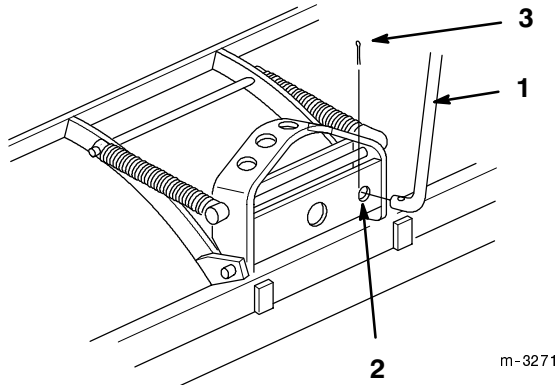

Figure 3
4. Insert the end of the control rod through the 1/2 in. (13 mm) hole in the bottom plate of the channel (Fig. 3).
5. Insert a 1/8 x 1 in. (25 mm) cotter pin through the hole in the rod and bend the ends of the pin (Fig. 3).